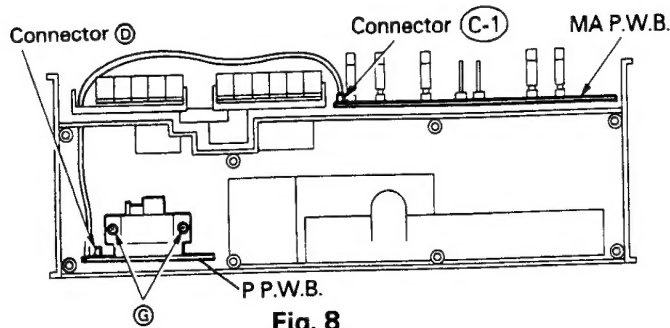

Fig. 8
- (1) After removing the top panel, remove the four mounting screws (F).
- (2) Remove the five connectors (C), and then lift the MA PWB upward.
6. P.P.W.B. (Fig. 8)